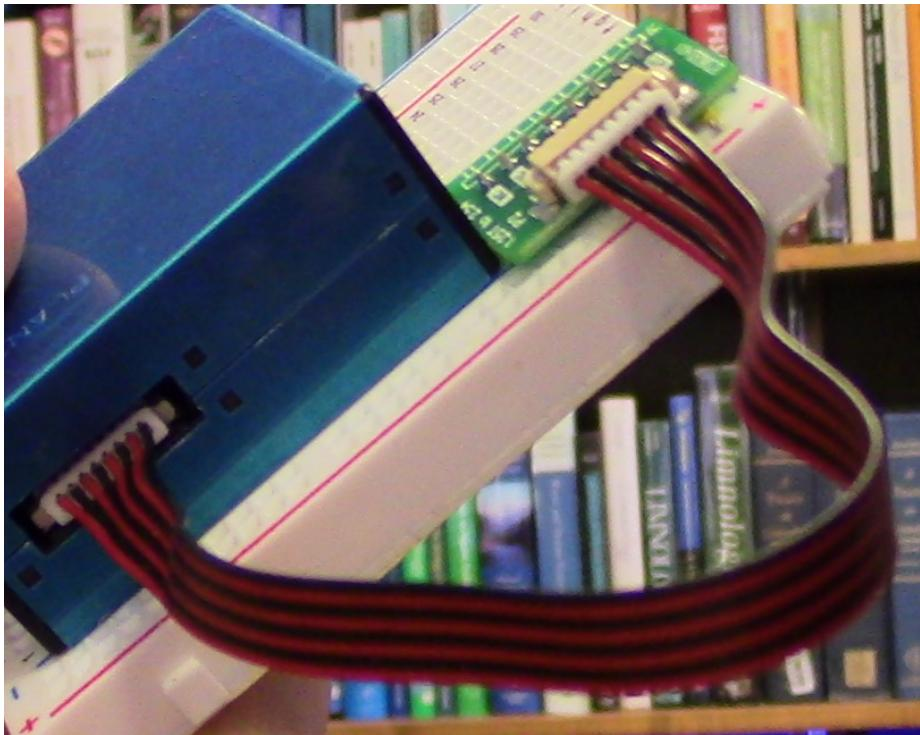

Figure 5: PMS5003 Adapter and PMS5003 connected with black and white ribbon.
2. Next, we’ll connect two bare wires (small wires without black rectangles). Connect the positive rail (+ red strip on breadboard) to A30 and the ground rail (- blue strip on breadboard) to A29 (Figure 5).